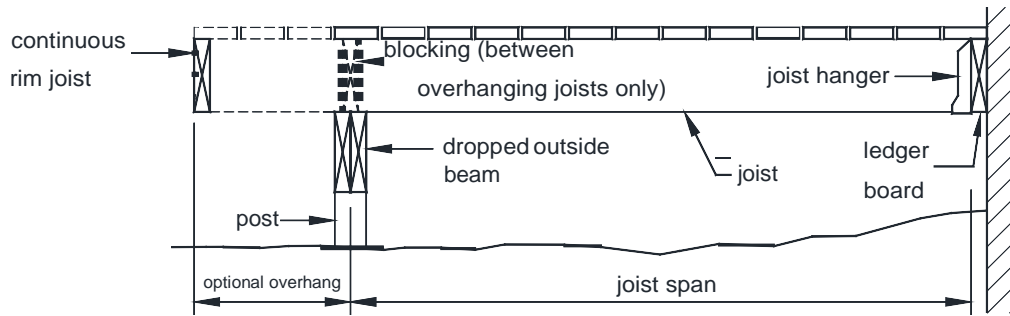
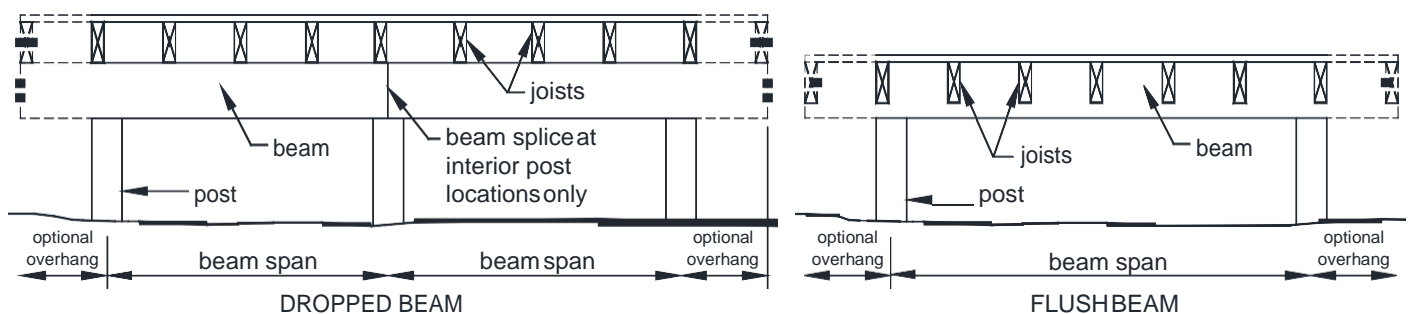

FIGURE 3: SINGLE SPAN DECK - JOISTS ATTACHED AT HOUSE WITH DROPPED BEAM
FIGURE 11: BEAM TYPES
- Single span decks are framed with joists that have one span between supports (not including overhang) as shown in FIGURES 3 and 4. Multi-span decks have joists with more than one span which bear on multiple beam as shown in FIGURES 5 and 6.
- Attach a continuous rim joist or blocking at the joist ends as shown in FIGURES 3, 5 and 7. Attach a rim joist to the end of each joist with (3)10d nails or (3)#10 by 3-inch wood screws.
- Dropped beams have joists bearing above; flush beams have joists with hangers bearing on its sides; see FIGURES 3 through 7 and FIGURE 11.
- Beam span length, as shown in FIGURE 11, is measured between the centerlines of two adjacent posts and does not include the beam overhangs.
- Beam plies are permitted to have splices. However, splices shall be located at inside posts connections as shown in FIGURE 11.